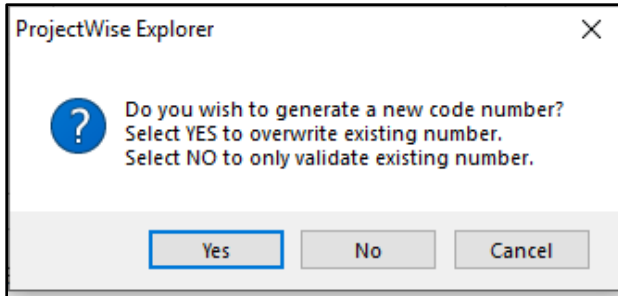

Figure 3.8. "Generate" window confirmation.
- **Freeform (20):** Refer to Section 3.1 for additional guidance. There is a 20-character alphanumeric limit for this field.
- **“Generate” Button:** The User should **always** select “Generate” in order to confirm the correct number in the sequence of files. A popup window shown in Figure 3.8 will ask for confirmation. Select “Yes”.